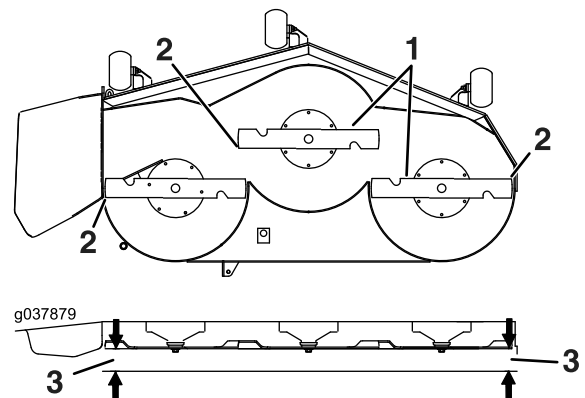

**Figure 81**
6. Measure between the blade tip and the flat surface (Figure 81). If both measurements are not within 5 mm (3/16 inch), adjust the leveling; continue with this procedure.
- 14. Carefully rotate the blades side to side (Figure 81).